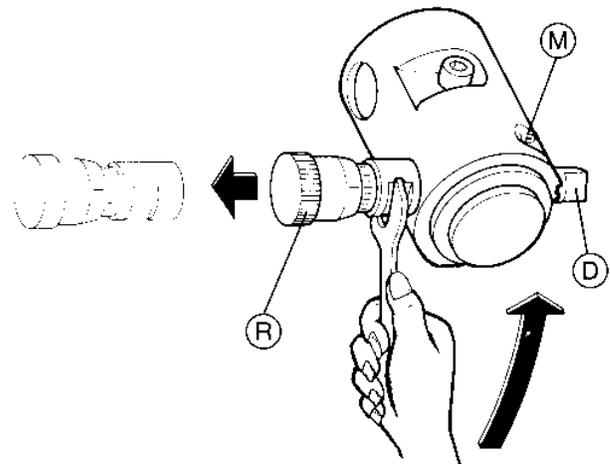

Fig. 12
- 1) Completely unscrew the tracer point knob (R) and remove it, as shown in Fig.12